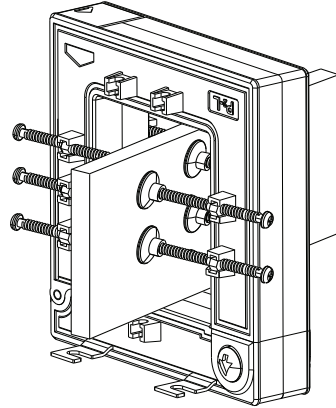
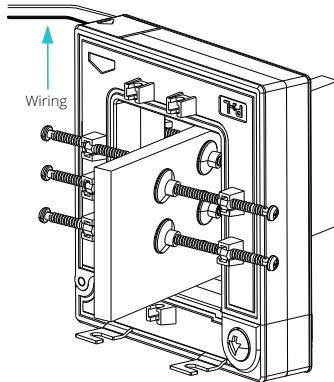

Figure 6 Clamping Screw and Pressure Washer Placement
Figure 7 Busbar Clamped after Installation
- Keep the round pressure washers on the busbar side as shown in Figure 6. Tighten the screws evenly until the busbar is secure and cannot move. Figure 7 depicts the view of the CT after installation when the busbar is clamped and the wiring is connected.